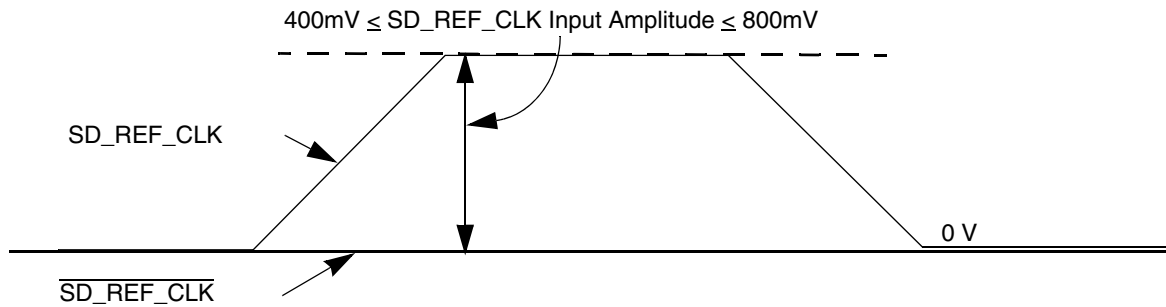

Figure 39. Single-Ended reference clock input DC requirements
- The $\overline{\text{SD_REF_CLK}}$ input average voltage must be between 200 and 400 mV. Figure 39 shows the SerDes reference clock input requirement for single-ended signaling mode.